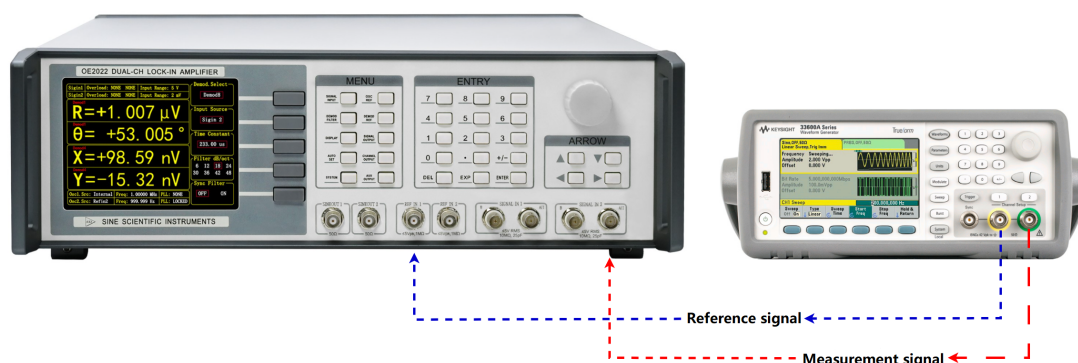

Figure 100. Signal Cable Connection Diagram
2. Use a signal cable with BNC connectors to connect the output connector of the function generator to the IN+ connector of SIGNAL IN 1 on the front panel of the OE2022. Use another BNC signal cable to connect the reference signal connector of the function generator to the REF IN 1 connector on the front panel, as shown in Figure 100.